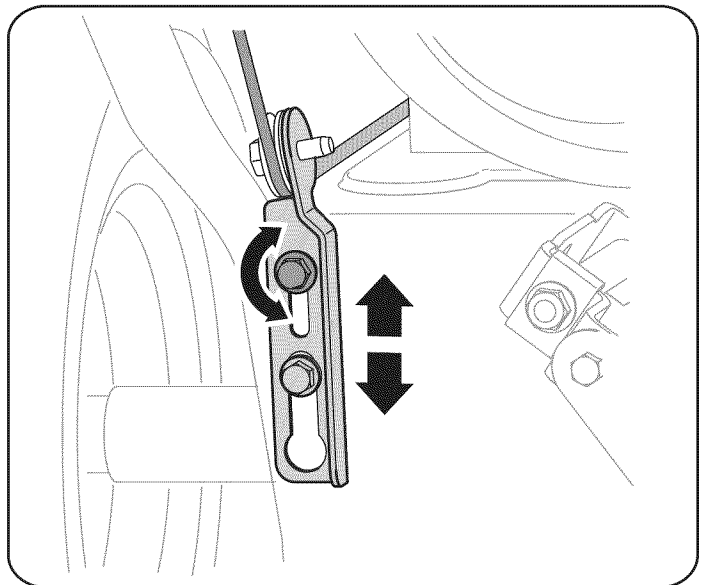

Figure 9
4. Allow the auger to remain engaged for approximately ten (10) seconds before releasing the auger control. Repeat this several times.
7. To readjust the control cable, loosen the upper hex bolt on the auger cable bracket. See Figure 9.